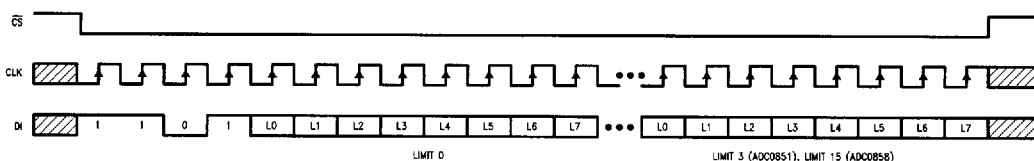

FIGURE 4. Timing Diagram for Write All Limits
Figure 4 shows the timing diagram. After  $\overline{CS}$  is brought low, the input word (DI) is clocked in starting at the first rising edge of CLK. The first four bits of DI configure the device in the "write all limits" mode. Next, the limit data is serially clocked in. To complete the operation,  $\overline{CS}$  should be brought high after the data is loaded.